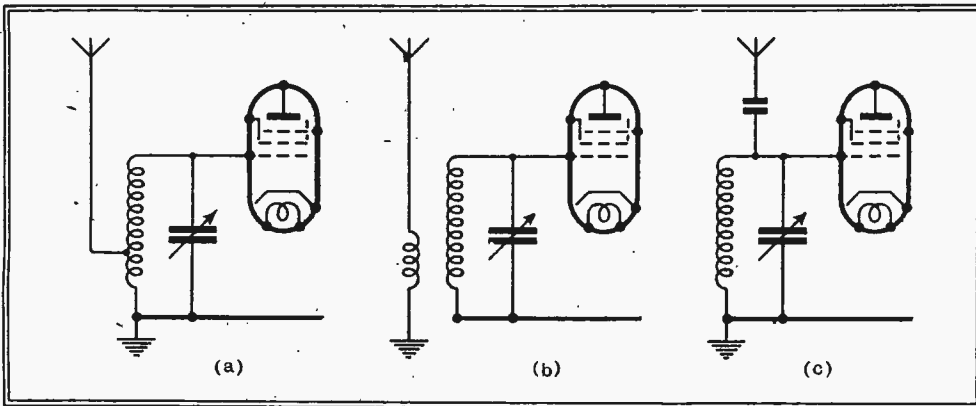

Fig. 2.—Alternative methods of coupling an aerial to the tuned circuit.
We have now got to the root of the matter—aerial coupling. Even a small aerial is too much to connect straight to the grid of the first valve. There is some looseness of coupling, obtained by tapping across only a portion of the aerial coil, or by connecting the aerial to a separate coil which may have only a few turns, or by putting a condenser in series as shown in Fig. 2. There are many variations and combinations of these, but they all have the following effects: (1) the resistance, loss, damping, or whatever you like to call it, on the first tuned circuit is reduced and its selectivity improved; (2) less of the signal voltage picked up by the aerial is passed on to the receiver; (3) the portion of the aerial capacity thrown into this circuit is reduced, and it is easier to gang it with others.
And it also makes it important to find out whether the *method* of coupling affects this side of the problem. It does. If in each method the capacity thrown into the tuned circuit by the aerial is restricted to a small amount, as is compulsory in a gang-tuned set, the inductive coupling shown in Fig. 2 (a) and possibly also (b) gets far more signal across than the capacity method (c). Fig. 4 shows the result of an actual measurement of the voltage across a typical tuned circuit due to London Regional. Suppose the mistuning capacity is to be restricted to 5  $\mu\mu\text{F}$ , inductive coupling gives over 0.75 volt, and capacity coupling barely 0.15!
system that is easy to add and adjust external to the receiver; to tap the coil one must be able to get at it. Just what can be done depends on the exact nature of the coupling system already in use; any detailed instruction I might give would be as likely to mislead as to help. It is quite common nowadays to have Fig. 2 (b) with a "high-peaked" primary coil—one resonating at a longer wavelength than any in the band covered—to help keep the sensitivity level over the waveband; but this does not necessarily make a large aerial undesirable.